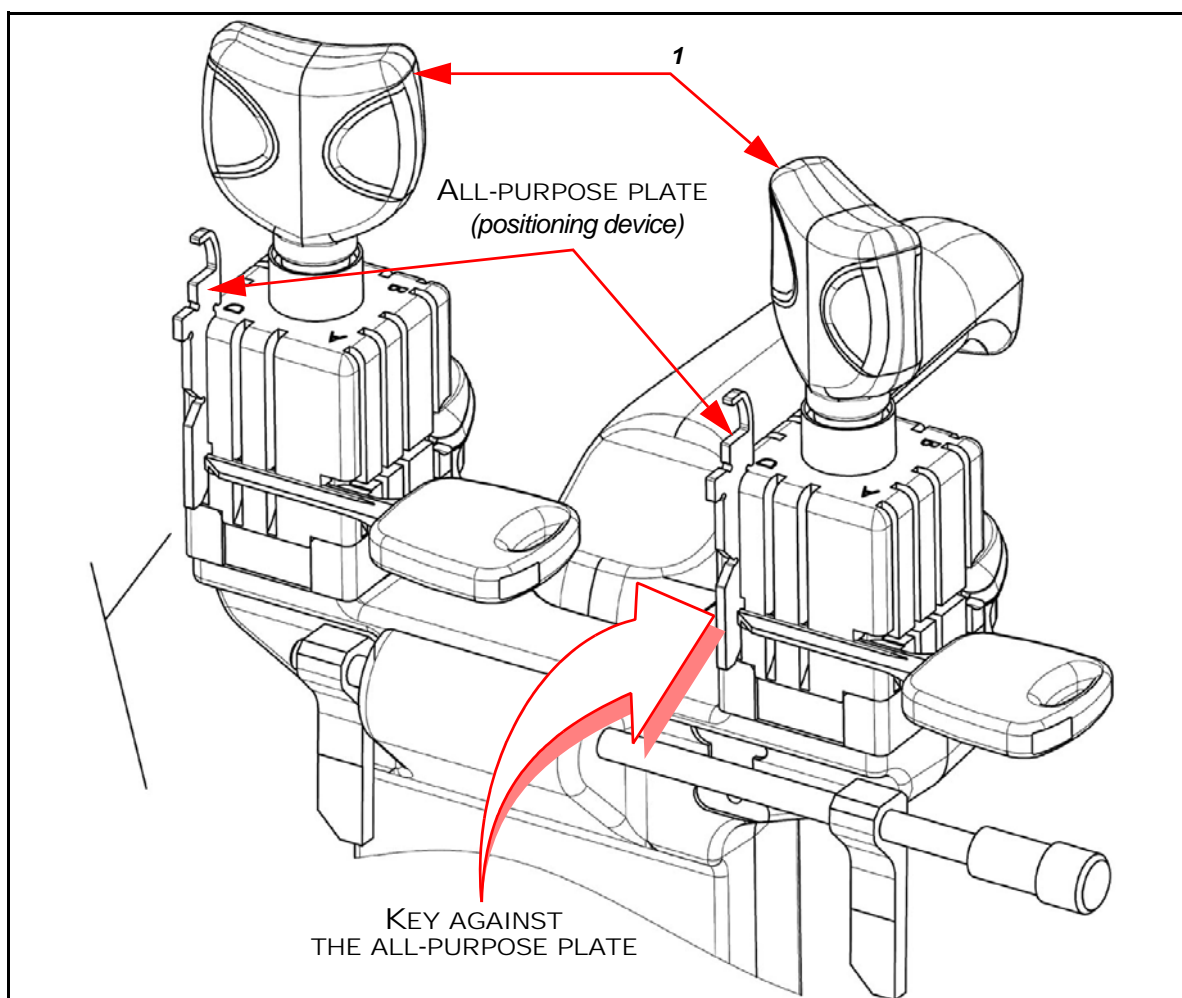

Figure 10: Duplication of single bit keys without shoulder
2. Insert the positioning devices with the notch up into one of the jaw's grooves according to the length of the key you wish to duplicate (see figure 10);
3. Insert the key sample into the left jaw and lock it by means of lever (1). The key sample must be placed with the tip against the positioning device;